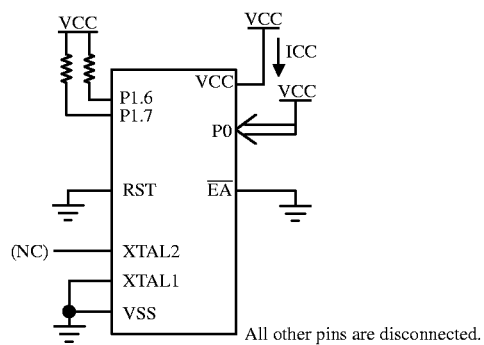

Figure 29 ICC Test Condition, Power Down Mode
- Power Down ICC is measured with all output pins disconnected; $\overline{\text{EA}}$ = VSS, PORT 0 = VCC; XTAL2 NC.; RST = VSS (see Figure 29).